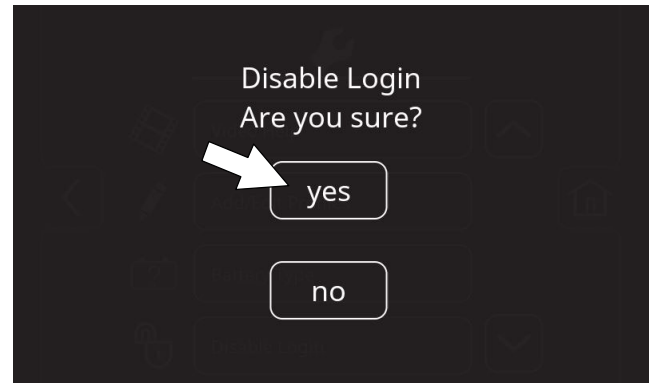

FIG. 185
5. Press the yes button to disable the login at machine start up (Figure 185).